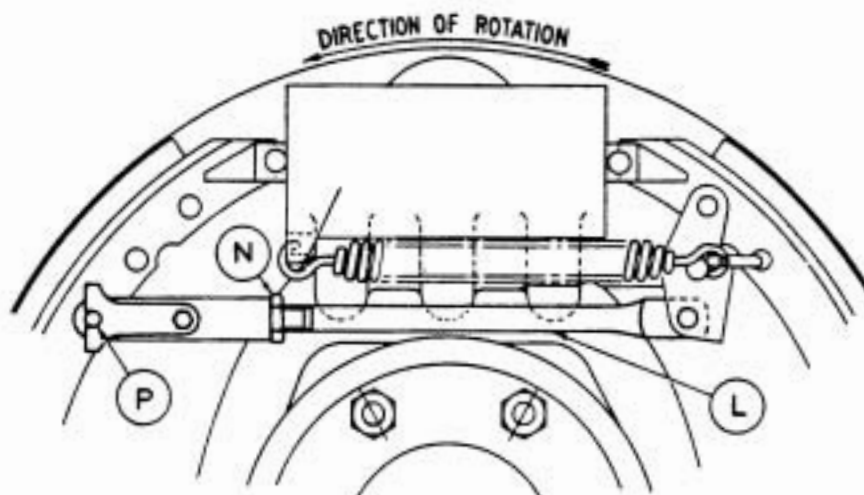

FIG. 1. DIAGRAM - SETTING INSTRUCTIONS - FRONT BRAKES.
The equal wear linkage between the two shoes also differs from the previous arrangement. The shorter of the two links is now eliminated, one arm of the balance lever being attached directly to the web of the trailing shoe, while a long link connects the other arm to the web of the leading shoe. (See Fig.1). The balance lever, instead of having a fulcrum consisting of a pin attached to the carrier plate, is pivoted on the end of a short push rod which butts against the cylinder body. The pull-off spring is also attached to the cylinder body, so that the whole assembly of shoes and inter-shoe linkage is mounted off the cylinder, and will slide bodily if the three studs attaching the cylinder to the carrier plate are loosened. The bedding of the two shoes can thus be equalised without any adjustment of the inter-shoe linkage being necessary, as was the case on the previous brake. The long link of the inter-shoe linkage is still adjustable, but this merely provides for an initial "sizing" operation to set the brake to the correct diameter over the linings to suit the drum. (See setting instructions.) The shoes have rather narrower webs than formerly, to provide a certain degree of flexibility. The same adjuster unit is used exactly as before.
- (i) Build up the brake complete, but do not fit the locking plate for pin P, Fig. 1, or lock the nut N. For an initial setting, the link L, should be adjusted to 7.375" (187.3 mm) between the pin centres.